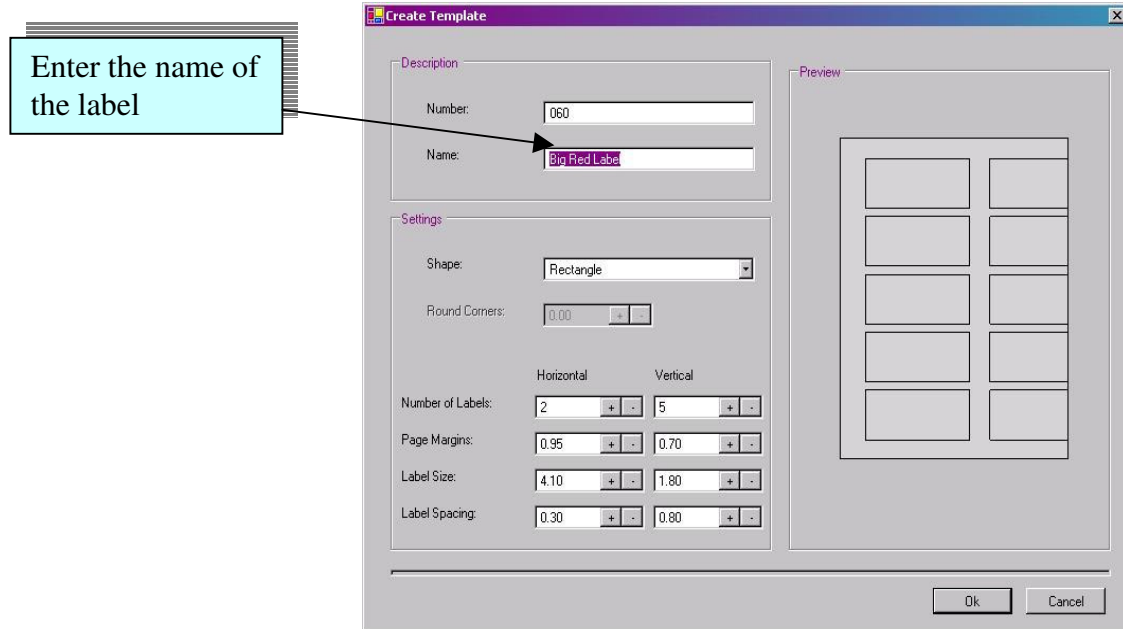

Figure 3.3.7: Label Name
4. Enter the name of the label in the name field (see Figure 3.3.7).